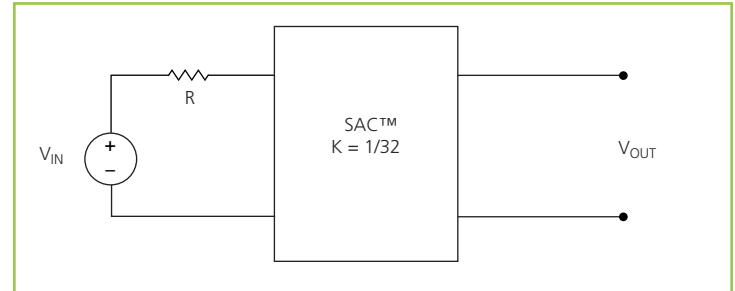

Figure 18 —  $K = 1/32$  Sine Amplitude Converter™ with series input resistor
$R_{OUT} = 0 \Omega$  and  $I_Q = 0 A$ , Eq. (3) now becomes Eq. (1) and is essentially load independent. A resistor  $R$  is now placed in series with  $V_{IN}$  as shown in Figure 18.
Assuming that  $R = 1 \Omega$ , the effective R as seen from the secondary side is  $0.98 \text{ m}\Omega$ , with  $K = 1/32$  as shown in Figure 18.